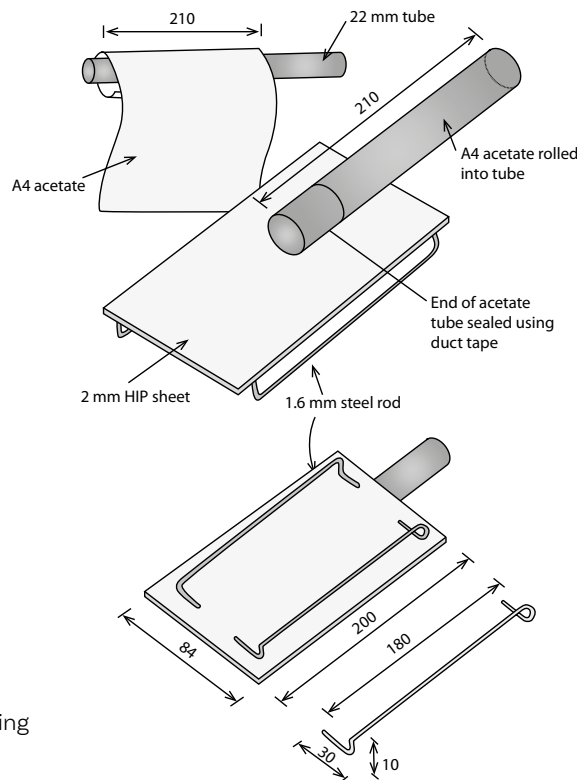

FIGURE PA 1.03
2. Bend the steel rod to make the runners (see figure PA 1.03 for sizes).